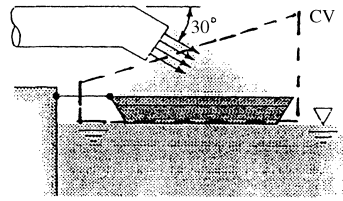

Fig. P3.70
3.70 The dredger in Fig. P3.70 is loading sand (SG = 2.6) onto a barge. The sand leaves the dredger pipe at 4 ft/s with a weight flux of 850 lbf/s. Estimate the tension on the mooring line caused by this loading process.